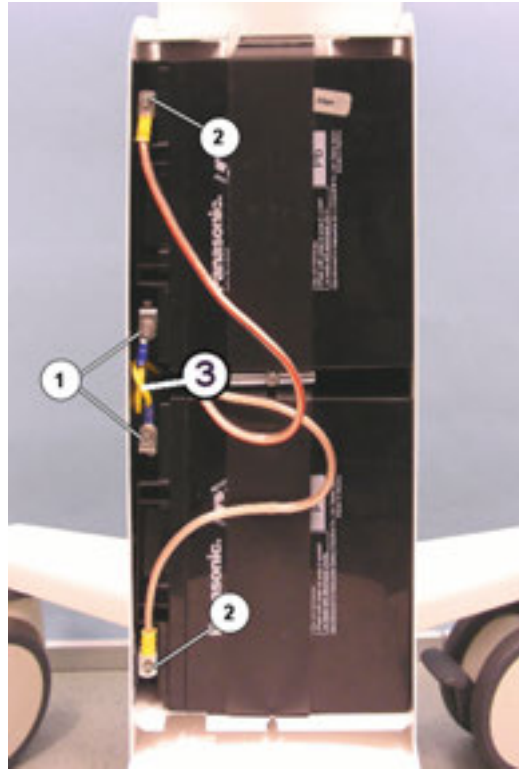

Fig. 103 External batteries: Screws, spring washers and electrical cable
- 4 Remove the screws and spring washers (Fig. 103/1) (2x of each) and disconnect the electrical cable with integrated tab fuse (Fig. 103/3).
- 5** Remove the screws and spring washers (Fig. 103/2) (2 of each).